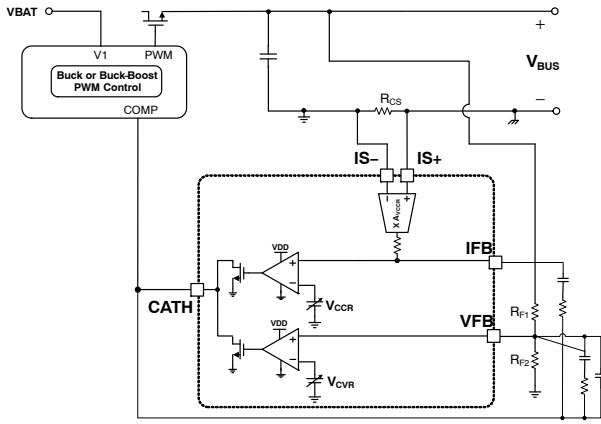

Figure 8. Voltage and Current Sensing Circuits
In order to regulate adaptive output voltages, the constant voltage control (CV) is implemented. The output voltage is sensed through an external resistor divider. The sensed output voltage is connected to the VFB pin, and it is input the non-inverting input terminal of the internal operational amplifier. The inverting input terminal is connected to the internal voltage reference (VCVR) which can be adjusted according to the requested output voltage. The amplifier and an internal switch operate as a shunt regulator, and the output of the shunt regulator is connected to the CATH pin. To compensate output voltage regulation, typically, two capacitors and one resistor are connected between CATH and VFB pins as Figure 8. The output voltage can be derived as calculated by the Equation 1, and the ratio of the resistor divider is 10. The reference (VCVR) for the output voltage is generated by a 10-bit DAC. The minimum resolution is 20 mV to meet PD compliance for PPS.
Constant Current Limit (CL or CC) or control is enabled during USB PD explicit contracts with a PPS APDO. When CL (or CC) mode is enabled, the supply will decrease the output voltage as the load increases in order to maintain a fixed output current. Output current is sensed via a current – sense resistor  $R_{CS}$ , which is connected between the IS+ and IS– pins. The sensed signal is internally amplified, and this amplified voltage is connected to the non – inverting input of the internal operational amplifier. Similar to the constant voltage amplifier circuit, it also plays a role as a shunt regulator to regulate the constant output current. In order to compensate output current regulation, one capacitor and one resistor are connected between the IFB and CATH pins as shown in Figure 8. The constant output current can be calculated using Equation 2. 5 mΩ is typically used for the sense resistor.